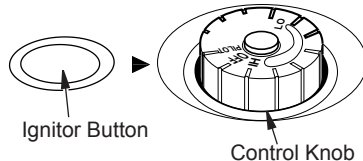

Figure 18 - Control Knob in the OFF Position
- Wait five (5) minutes to clear out any air. Then smell for gas, including near the floor. If you smell gas, STOP! Follow "B" in the safety information above. If you do not smell gas, go to the next step.
- Turn control knob counterclockwise ↺ to the PILOT position. Press in control knob for five (5) seconds (see Figure 18).